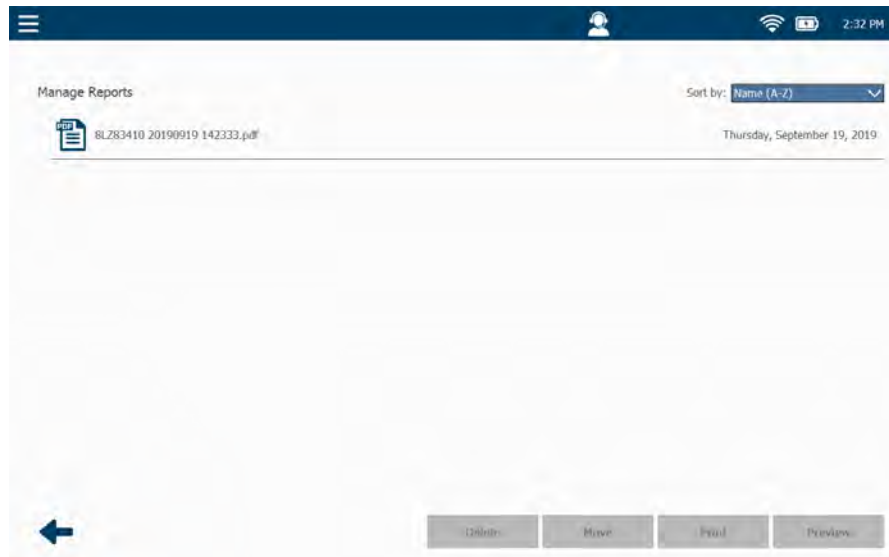

Figure 5.2 *Manage Reports Screen*
The report you selected is moved from your PRO-LINK[®] Edge to your USB memory stick, and you are returned to the **Manage Reports** screen (Figure 5.2).
- Touch the **Back Arrow** at the bottom of the screen return to the Manage Reports screen (Figure 5.2).